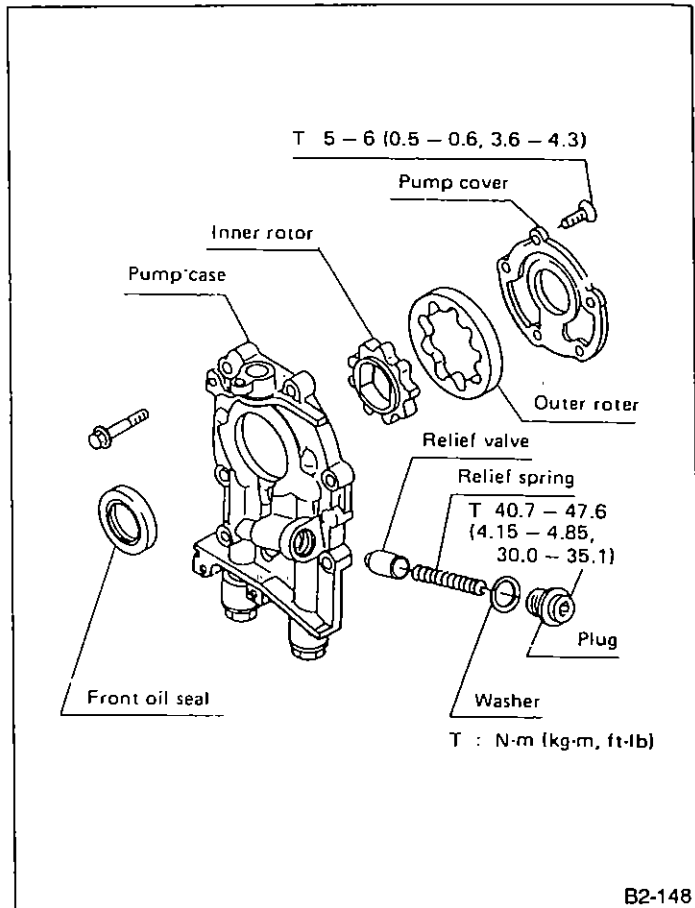

Fig. 8
- Insert a standard screwdriver as shown in Figure 8.